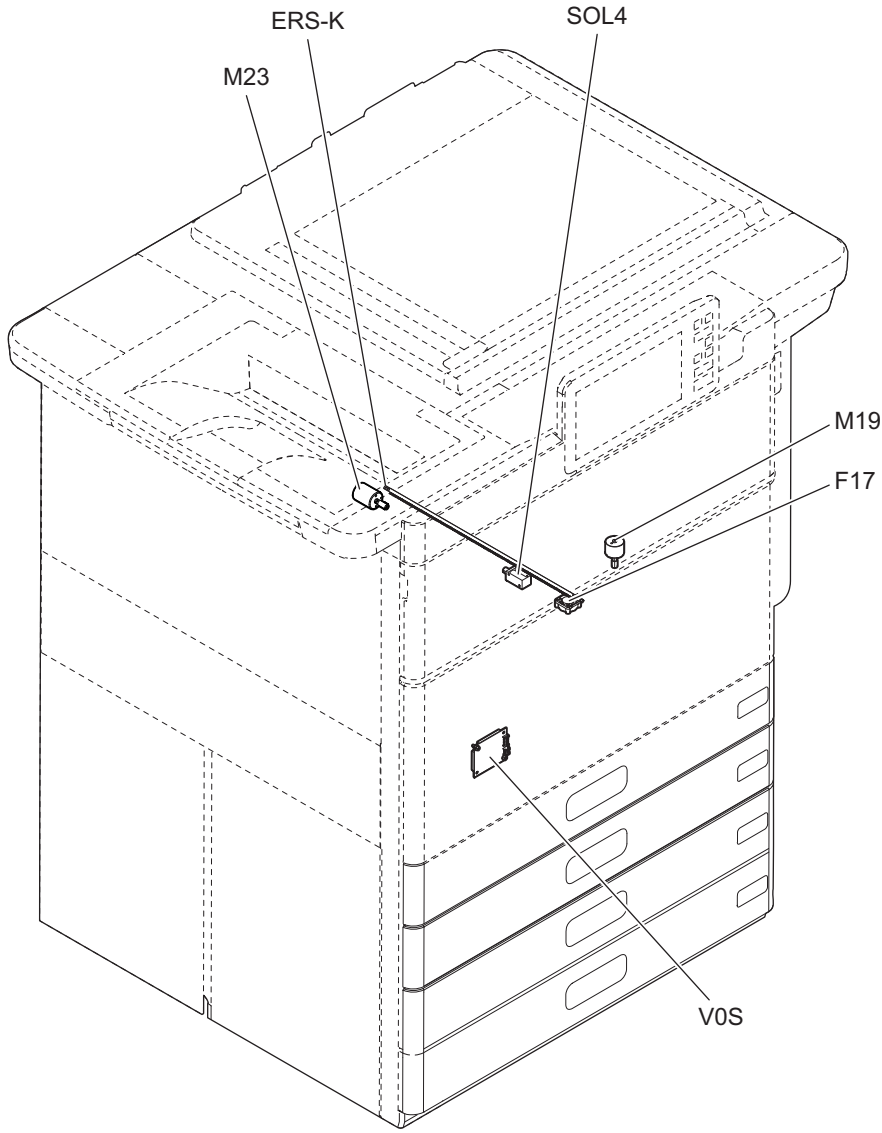

Fig. 3-15
| M19 | Sub-hopper toner motor (K) | Mixes the toner in the sub-hopper (K) and supplies the toner from the sub-hopper (K) to the developer unit (K). | [E] Developer unit Fig. 3-15 | 60-20 |
| M23 | Needle electrode cleaner motor (K) | Drives the needle electrode cleaner. | [E] Developer unit Fig. 3-15 | 59-11 |